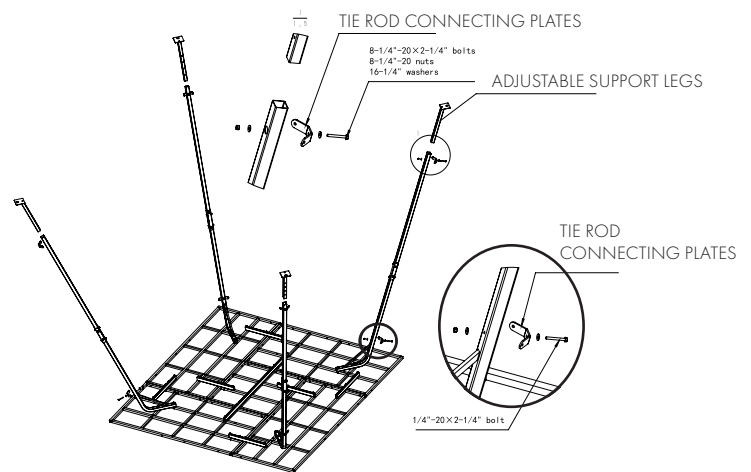

FIGURE 5
Attach eight **TIE ROD CONNECTION PLATES (#8)** and four **LEG ADJUSTMENTS (#9)** to the four **UPPER LEGS** and the **LOWER LEGS** by using (8) 1/4"-20 x 2-1/4" bolts, (8) 1/4" lock nuts and (16) 1/4" flat washers (Figure 5). **Be sure to not over tighten.**